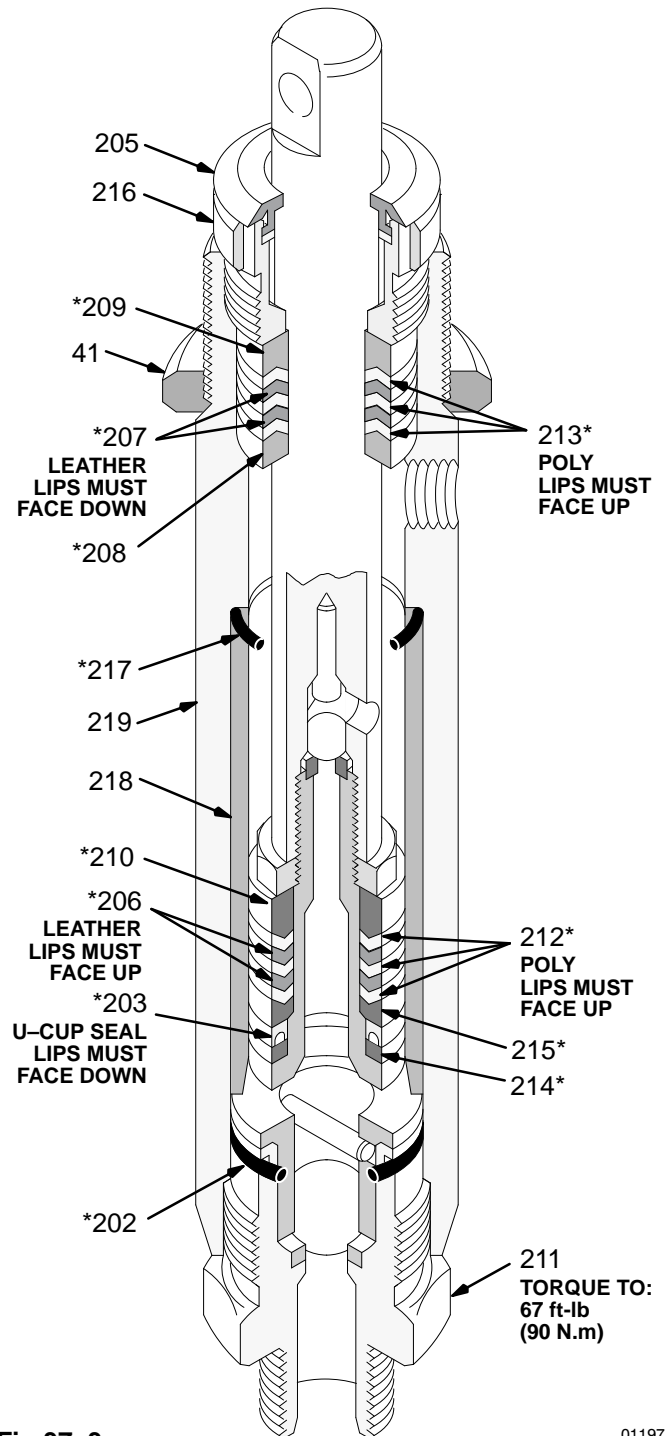
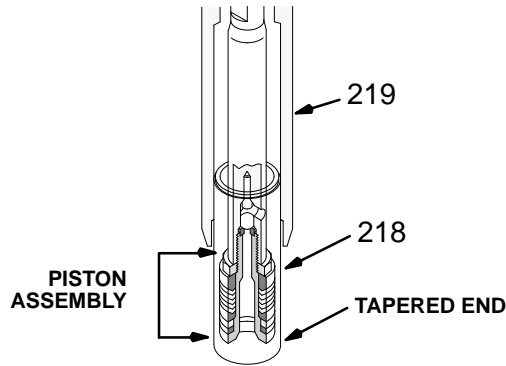

Fig 37-3
Fig 38-1
- Stack the male gland (208*), alternate packings (213*,207*), and female gland (209*) into the top of the cylinder (219). See Fig 37-3.
- Install the packing nut (216) and plug (205), but leave loose for now. See Fig 37-3.
NOTE: The tapered end of the sleeve is the bottom of it. See Fig 38-1.
- Place a new o-ring (217*) firmly in the cylinder groove. See Fig 37-3.
12. Slide the sleeve/piston rod assembly **INTO THE BOTTOM OF THE CYLINDER**. This is to prevent packing damage during reassembly. See Fig 38-1.
13. Screw down the cylinder locknut (41) until it is finger tight at the bottom of the external cylinder threads.
14. Place the flats of the intake valve (223) in a vise. Install a new o-ring (202*). Screw the pump cylinder into the valve. Torque to 67 ft-lb (90 N.m). See Fig 37-3.